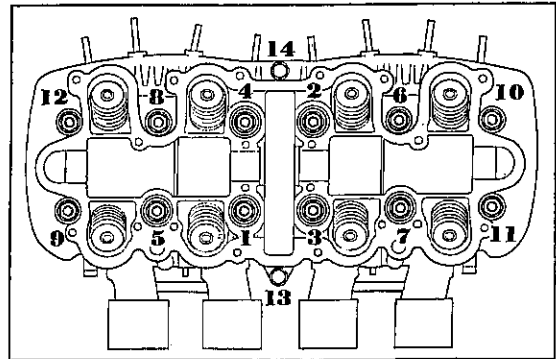

Fig. 83
11. Tighten the twelve 8mm nuts with the special tool to a torque of  $2.0 \sim 2.2 \text{ kg-m}$ . ( $14.46 \sim 16.63 \text{ ft-lbs}$ ) in the sequence shown in Fig. 83.